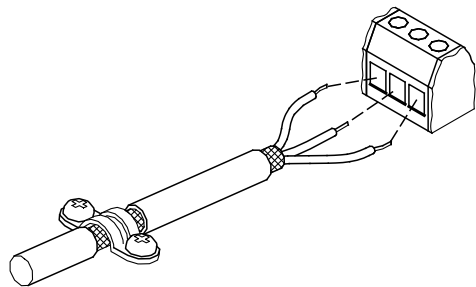

Fig. 11 Stripped cable with screen and wire connections
- Connect the screens of the cables to frame at both ends with good connection. The screens must be as close as possible to the terminals. See fig. 11.